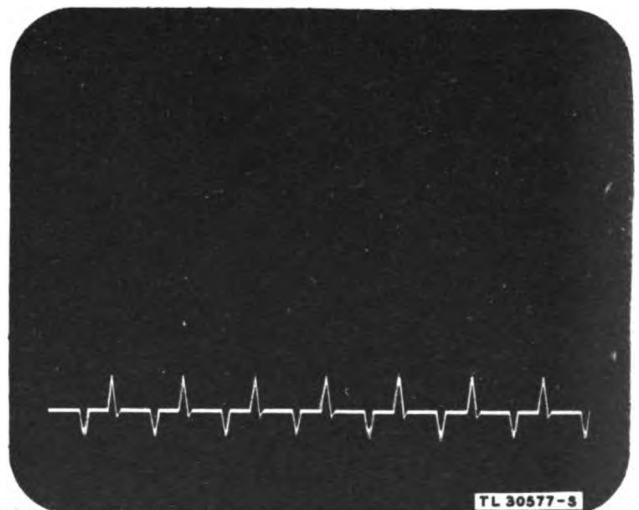

Figure 38. Control unit display pattern, 75 K YD. calibration.
a. One end of Cord CD-1347 is connected to the RANGE MARKER receptacle on the radar set; the other end is connected to jack 120 on the control unit (jack 120 connects to the top vertical-deflection plate). The range switch is turned to 75 K YD. and the sweep duration is adjusted until the waveform on the screen is as shown in figure 38. Figure 38 shows seven 10,000-yard spaces between the positive RANGE MARKER pips and is about a half a space longer, to add up to a total duration correct for a 75,000-yard timebase.